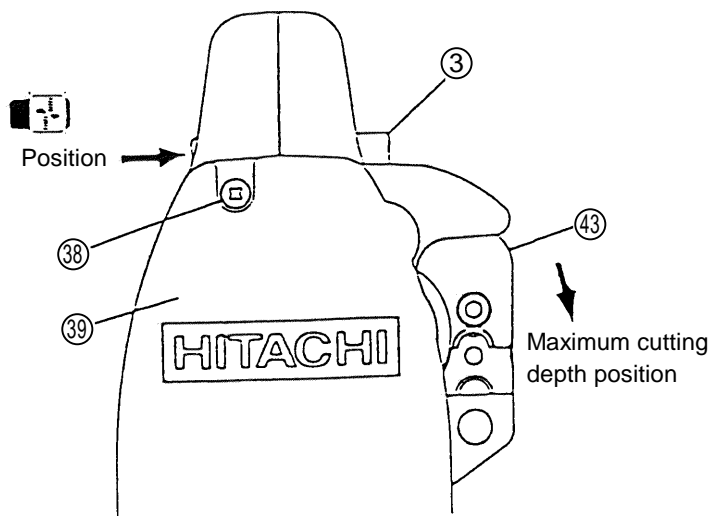

Fig. 2
- (2) Before Starting Disassembly (See Fig. 2) :
- (1) Disassembly of the Cam Mechanism and Related Parts:
- (a) Remove the Cover ③⑨. (See Fig. 2)